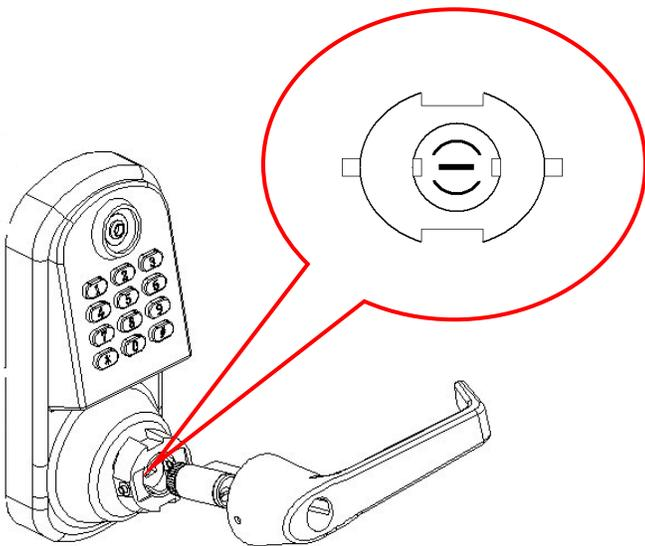

Fig 7
Place the override cylinder into front handle housing, insert override key through the hole into cylinder. Turn the override key 90° clockwise. Press both catch pin in and snap the front handle into drive shift. Turn override key 90° counter clockwise and pull the key out. (Fig 7)